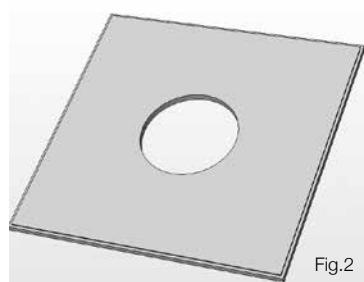

Fig.2
2. Cut out the hole in the ceiling tile using a pad saw. (Fig.2)